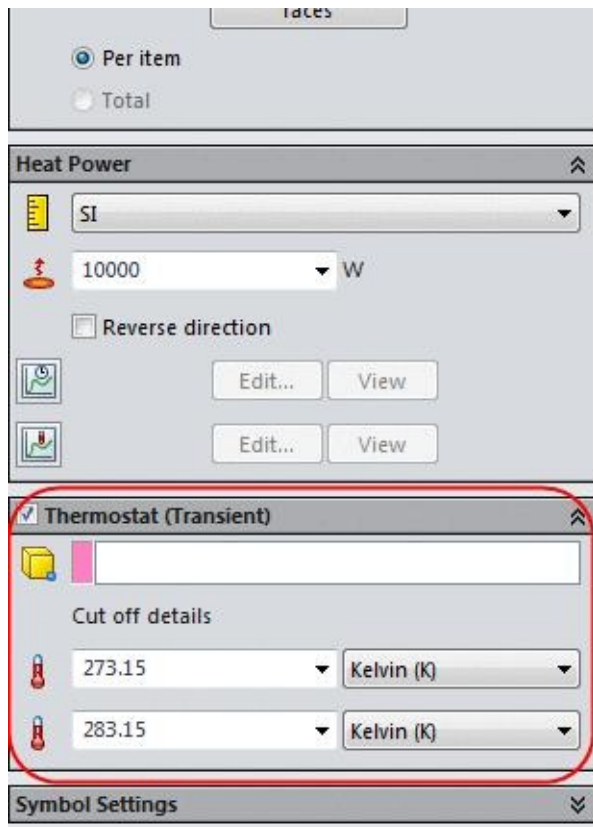

Figure-9. Thermostat rollout
- On selecting the check box of **Thermostat (Transient)** rollout, the expanded rollout is displayed; refer to Figure-9.